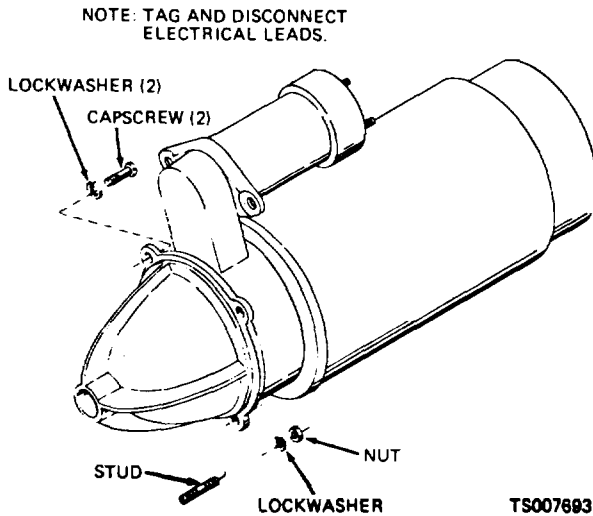

Figure 4-20. Starting Motor, Removal and Installation
(2) Apply parking brake.
(3) Disconnect and tag the electrical leads from the starting motor.
(4) Remove the starting motor from the flywheel housing as shown in figure 4-20. Pull straight out on the starting motor to disengage the pinion gear from the ring gear.
(1) Install the starting motor as shown in figure 4-20.